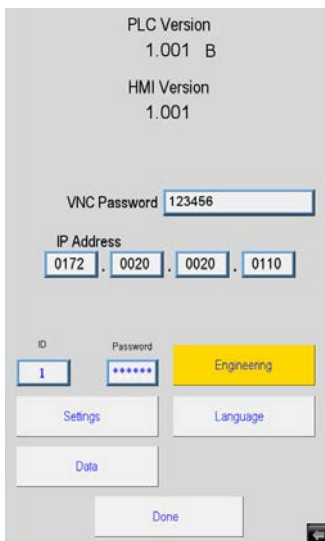

Figure D.5 - View Screen with Engineering Button
3. A new yellow button labeled “Engineering” should appear on the View Screen (Figure D.5).